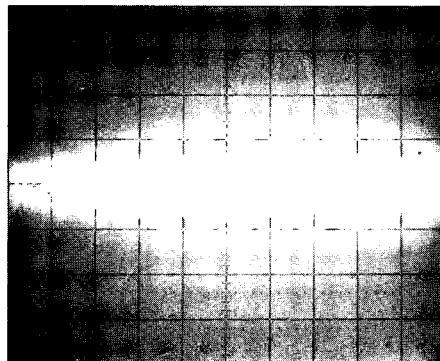

Figure 5-4. Waveform at A12Q11 Source.
- g. Adjust potentiometer A12R1 until dc level of displayed waveform is 0mV $\pm 10\text{mV}$. Refer to Figure 5-4 which shows well-adjusted waveform.